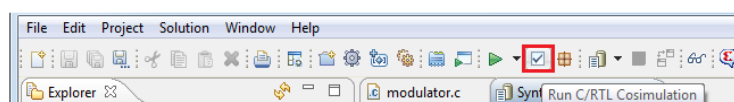
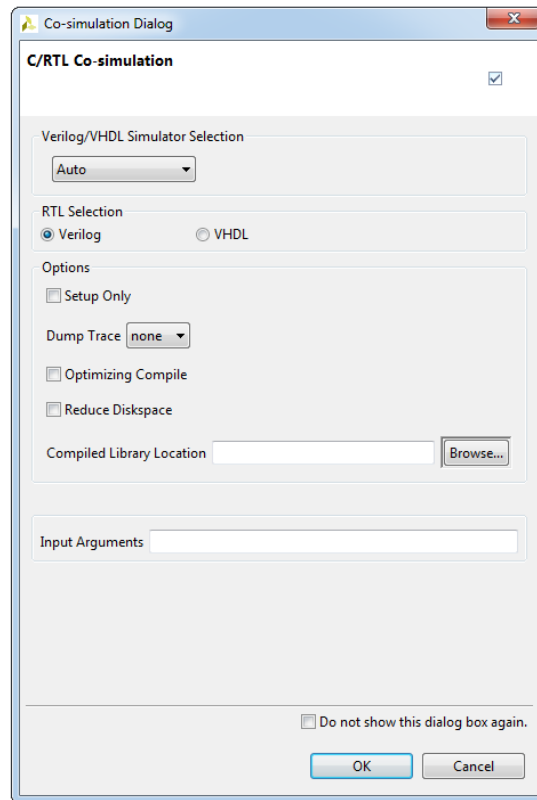

Figure 2.55: RTL Verification Flow
Figure 2.56: Run C/RTL Cosimulation button
1. In the main Vivado HLS toolbar menu, click the **C/RTL Cosimulation** button, see Figure 2.55. This option opens the simulation wizard window shown on the Figure 2.56.